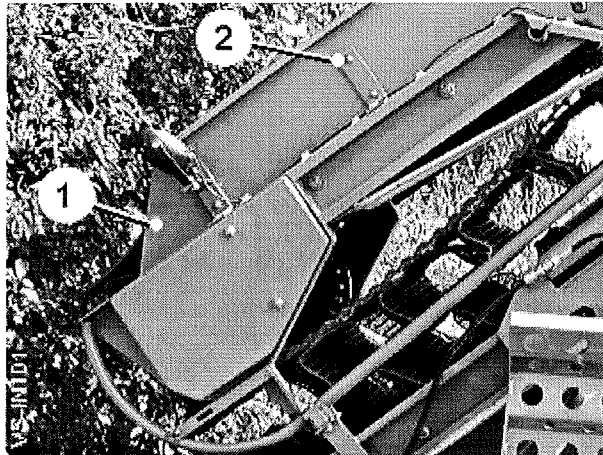

Fig 23
To ensure the web panels (item 1, fig 23) do not foul the elevator web, they are mounted on slotted brackets (item 2, fig 23) that allow them to be positioned vertically and horizontally relative to the web. Care should be taken when adjusting the panels to ensure they do not rub on the web bars, as this will cause rapid wear and damage to both the web and panels.